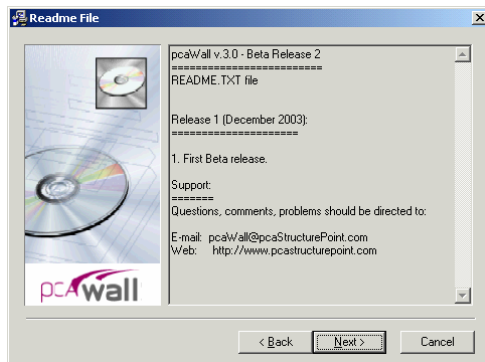

Figure 1-3. Readme file
5. If you continue the installation then please read the latest information of the software included in the readme file (Figure 1-3). Having read all the information press the NEXT button.